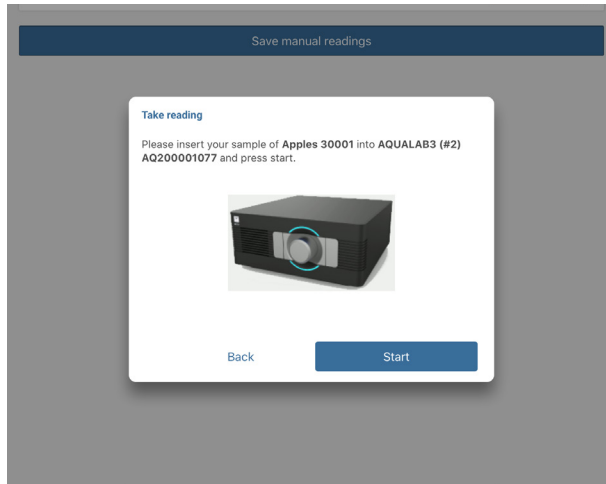

Figure 67 Take Reading popup
- b. Select the **Start** button on the Take Reading dialog box to start the reading if the sample is already loaded and the drawer knob is turned to the left (Figure 67).